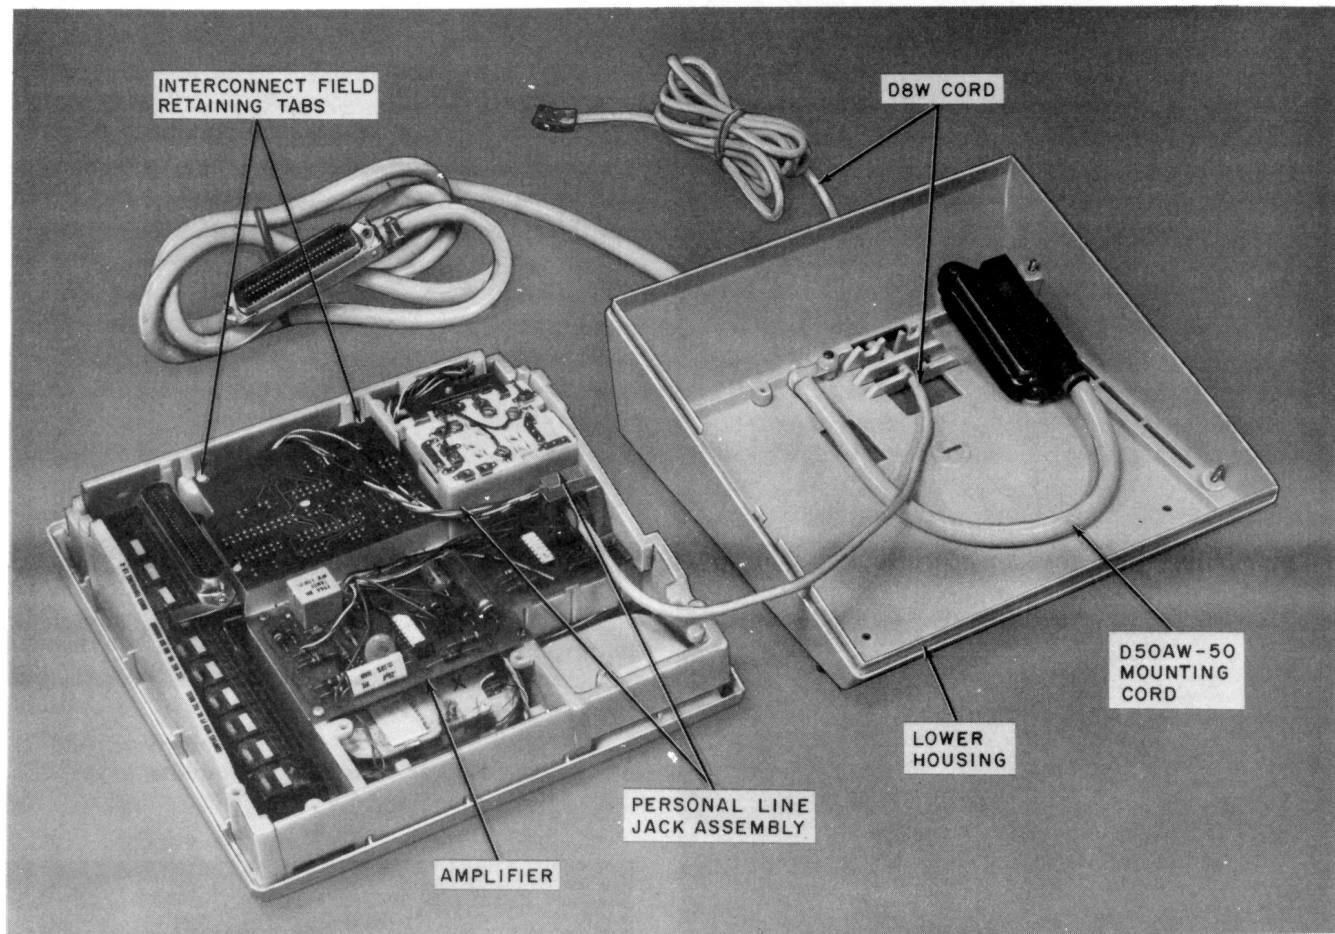

Fig. 50—Basic Satellite Desk Set Disassembled
5.14 With the lower housing off (Fig. 50), the following components are accessible: